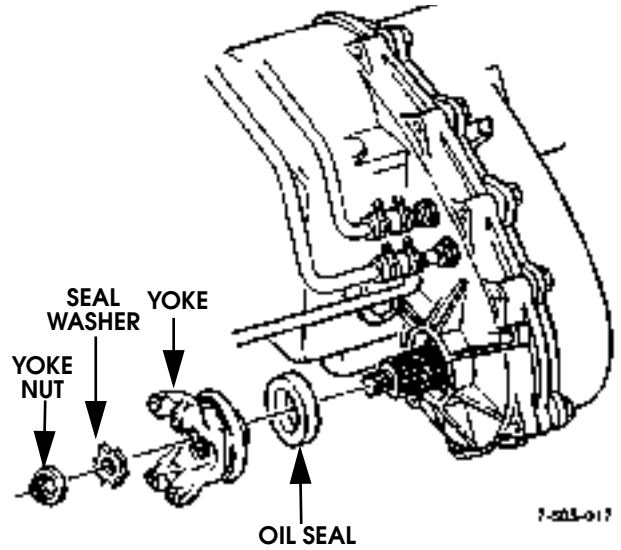

Figure 5-77: Front Output Shaft Yoke and Seal Removal/Installation
3. Remove yoke nut (Figure 5-77).